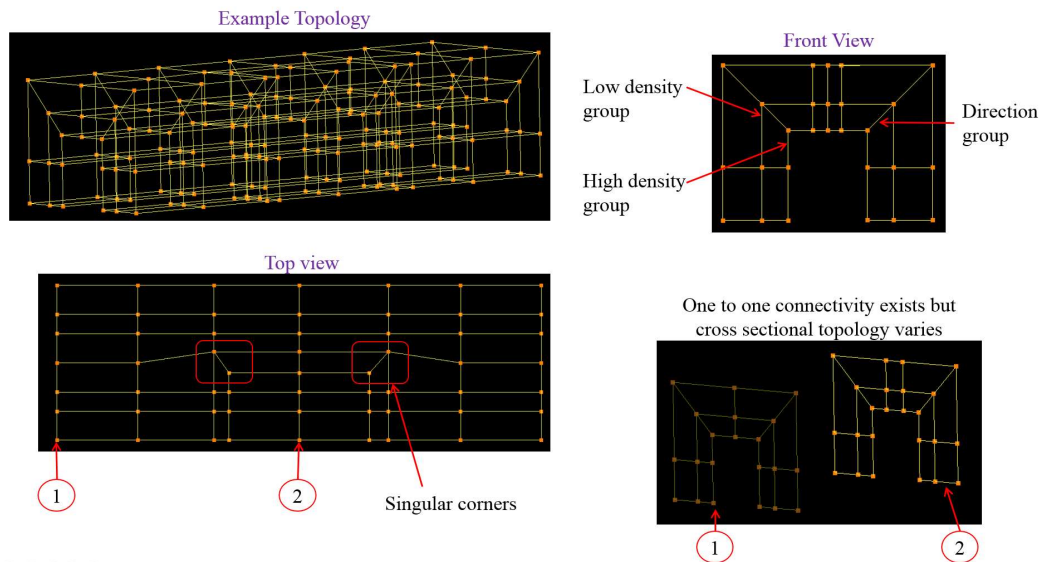

Figure 4.166: Topology structure of high and low-density group
4. The topology structure of the high and low-density groups should be same at every cross-sectional sheet, as explained in Figure 4.166.